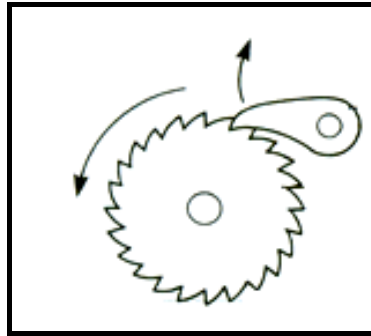

FIGURE 1.9
1.18 Identify the mechanism shown in FIGURE 1.9.